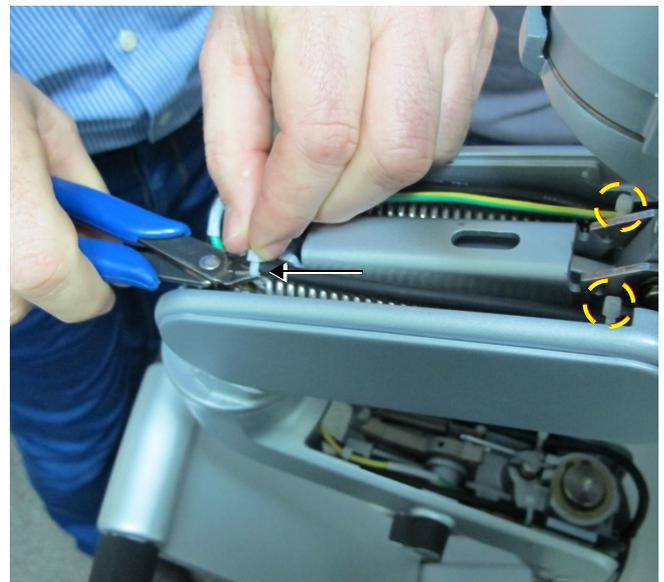

Figure 8-227 Cutting Tie-wraps on the Articulated Arm
- 2.) Release Articulated Arm lock and raise the monitor arm - see left picture Figure 8-227 below.